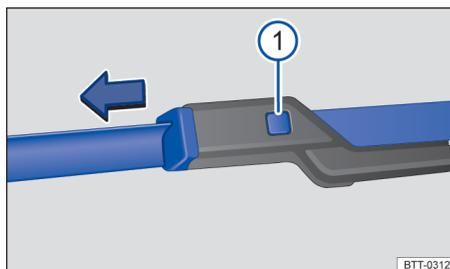

Fig. 154 Changing the windshield wiper blades.
- With one hand, press and hold the release button → fig. 154 ①.